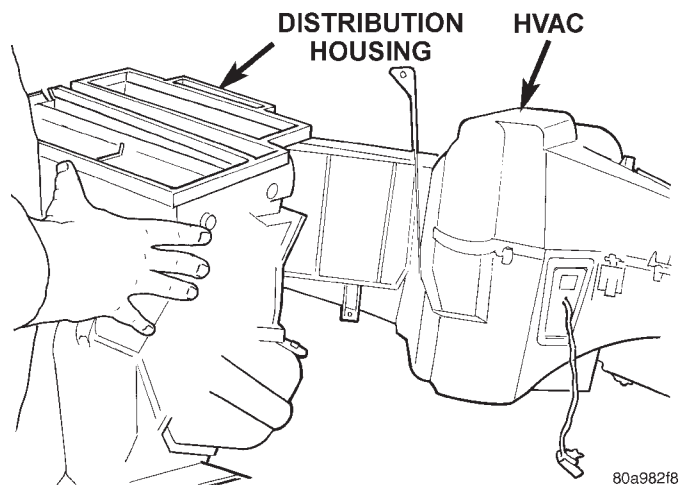

Fig. 46 Distribution Housing
- (1) Place HVAC unit assembly on workbench.
- (2) Remove distribution housing mounting screws (Fig. 46).